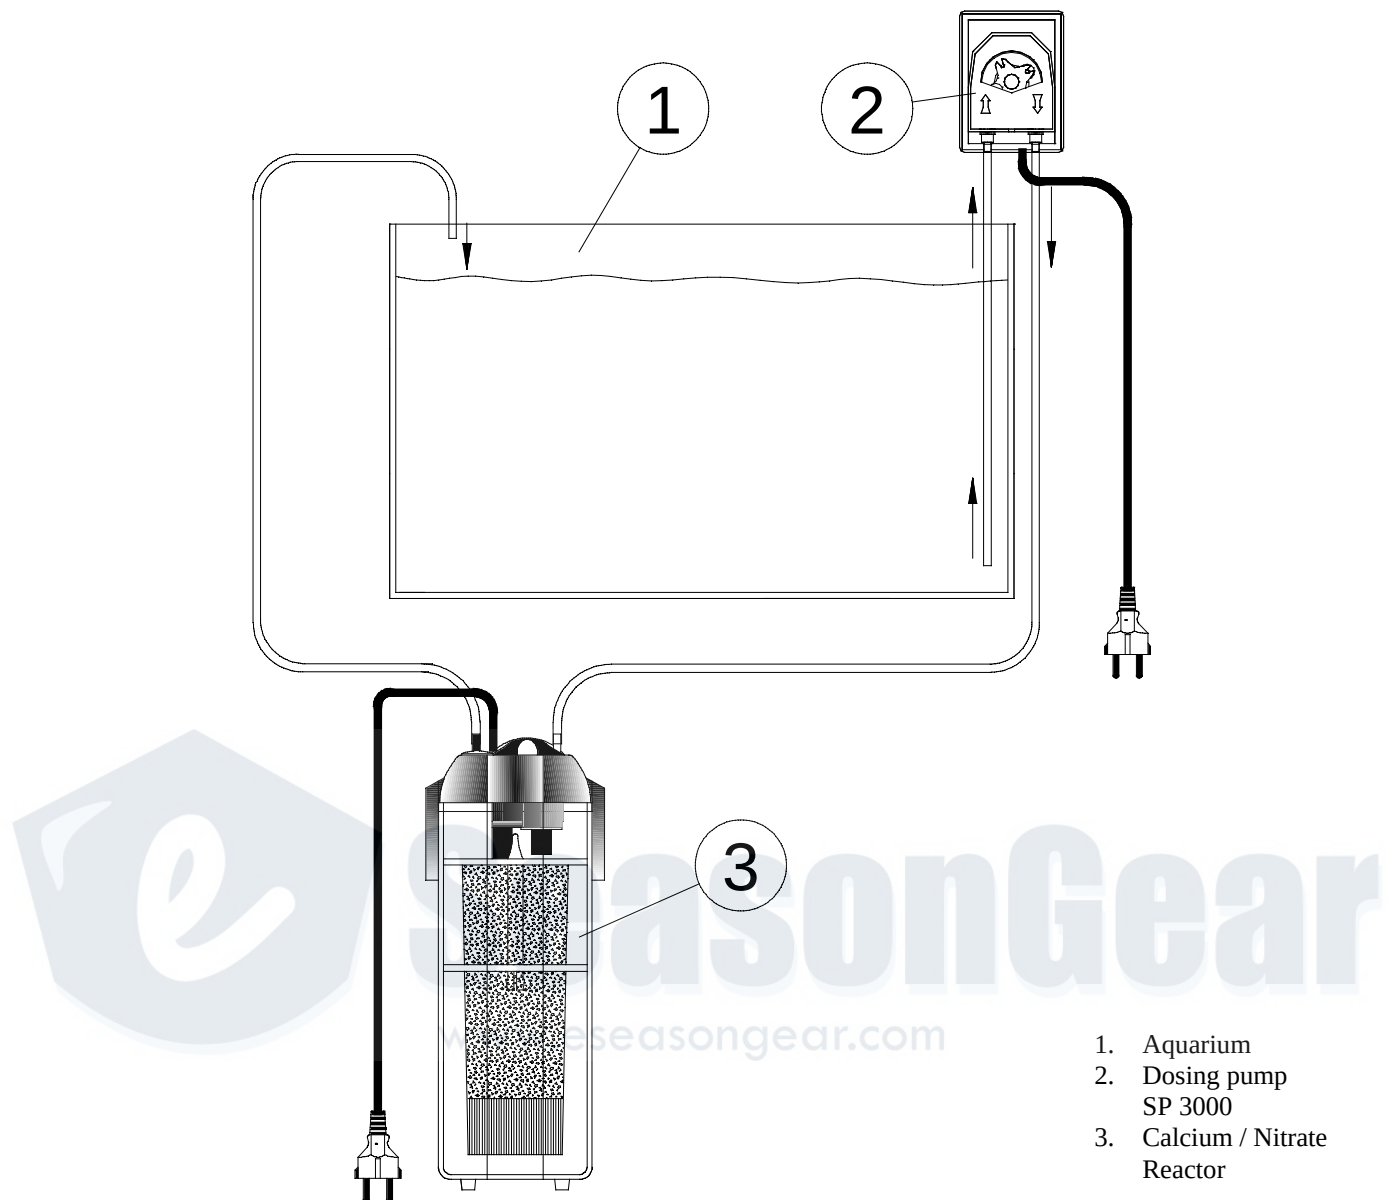

fig 2: Installation method for operating a Calcium reactor or Nitratereducator with the SP 3000.
- The outlet should always be positioned above the aquarium or sump. If the pump stops with the drive axle in the horizontal position then the pump will not act as a non return valve. The air gap between the outlet hose and water prevents aquarium water being syphoned back into the liquid storage tank (see fig 2).